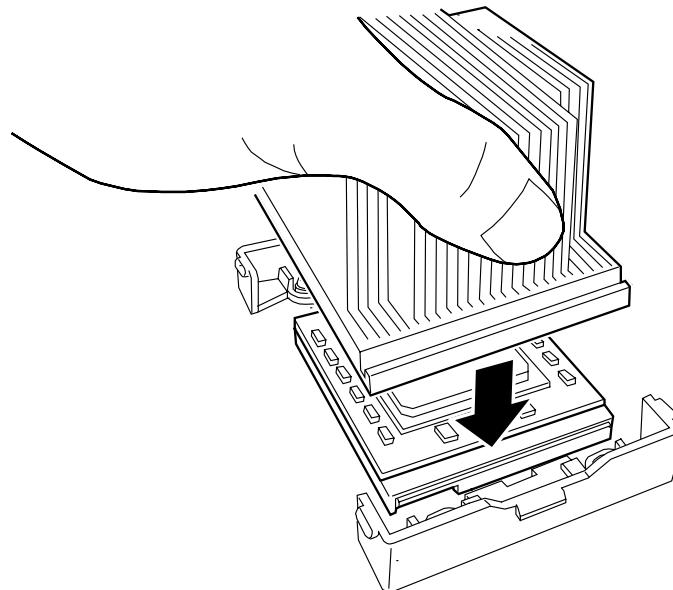

Figure 4-16. Installing the Heat Sink.
- 11.** Place the heat sink on top of the processor. See Figure 4-16.